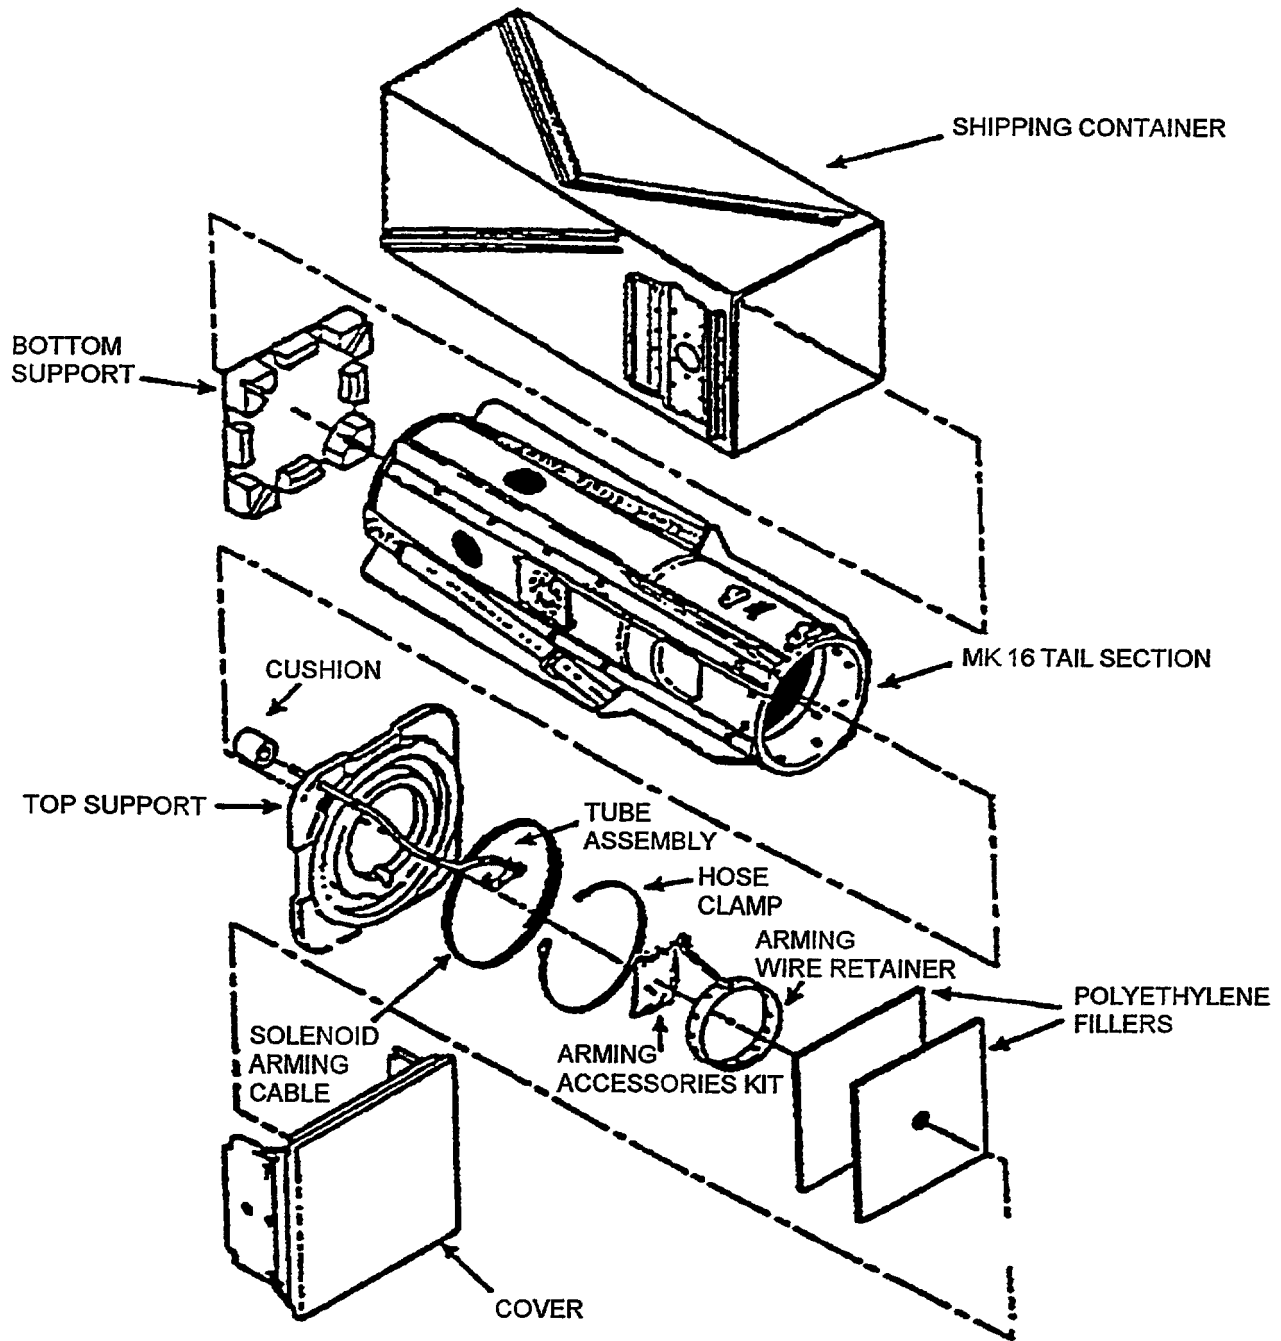

Figure A-7. Mine Flight Gear Kit Mk 164 Mod 0
- a. Referring to Figure A-7, prepare shipping and storage container for packing Tail Section Mk 16 as follows:
- (1) Remove container lid, top support, and polyethylene fillers from container.
- (2) Verify bottom support is properly situated in bottom of container.
- (3) Verify safety harness is installed.
- (4) Ensure eight setscrews are installed in forward edge of tail section.
- c. Install end of tube assembly through hole in top support as shown in Figure A-7. Install cushion on end of tube assembly. Then install top support with tube assembly in shipping container, aligning spring pin hole in top support with spring pin on tail section.
- Arming wire retainer setscrews (3)